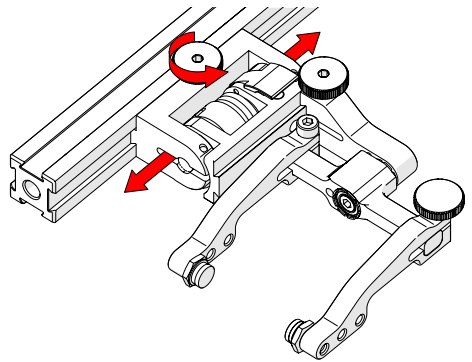

Fig. 103 - Adjust on frame bar
2. Use the probe holder adjustment knob to position the probe holder along the frame bar (Fig. 103).